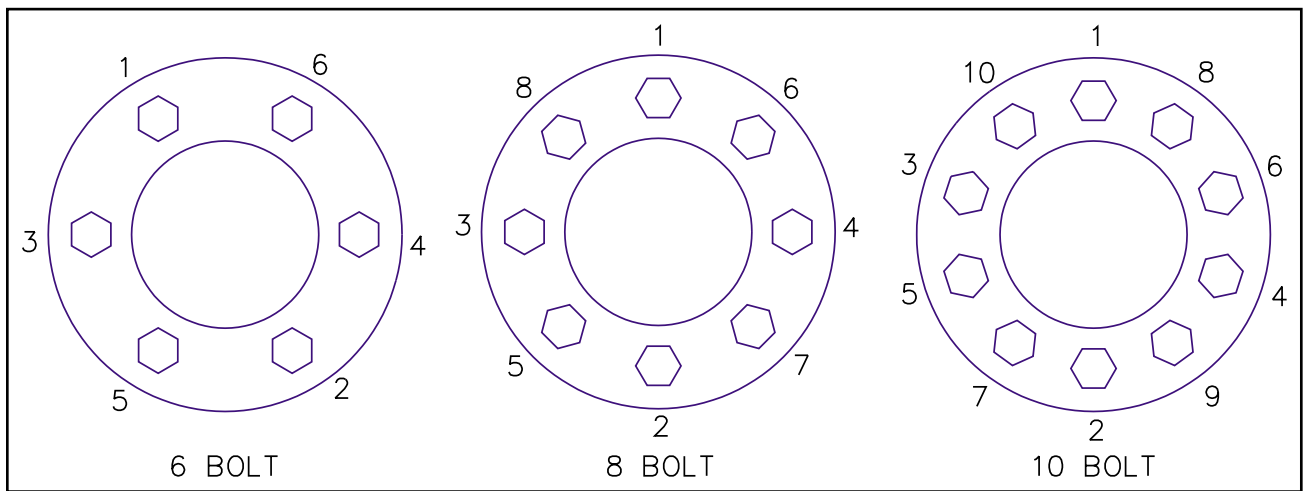

Figure 4-20 Stud Tightening Sequence
- c. Install the inner capnuts on the studs and tighten to fifty foot-pounds using the sequence illustrated in Figure 4-20. Make certain that the left-handed threads are installed on the driver side of the vehicle and the right-handed threads are installed on the curbside of the vehicle.
- d. Tighten the inner capnuts to full torque of 450 to 500 foot-pounds using the sequence shown in Figure 4-20.
- f. Install the outer capnuts and tighten to 50 foot-pounds using the sequence in Figure 4-20. Then tighten to full torque of 450 to 500 foot-pounds using the same sequence.